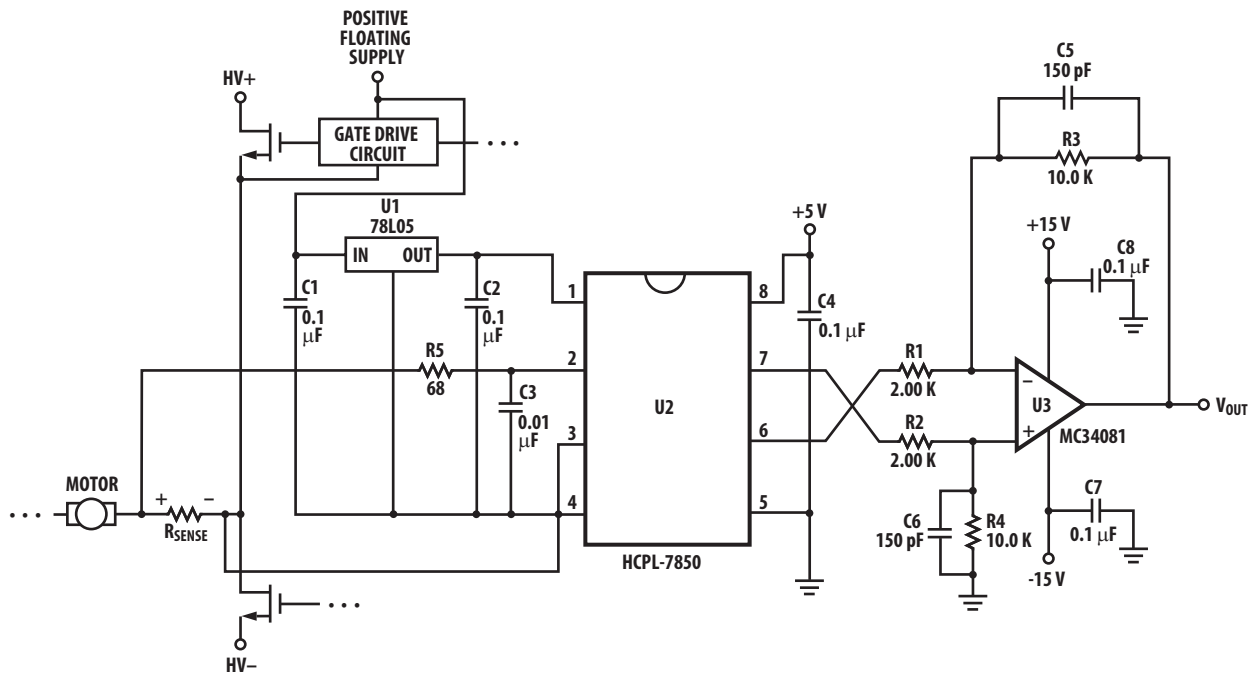

Figure 24. Recommended Application Circuit.
- CMR (also known as IMR or Isolation Mode Rejection) specifies the minimum rate of rise of a common mode signal applied across the isolation boundary at which small output perturbations begin to occur. These output perturbations can occur with both the rising and falling edges of the common mode waveform and may be of either polarity. A CMR failure is defined as a perturbation exceeding 200 mV at the output of the recommended application circuit (Figure 24). See Applications section for more information on CMR.
The recommended application circuit is shown in Figure 24. A floating power supply (which in many applications could be the same supply that is used to drive the high-side power transistor) is regulated to 5 V using a simple three-terminal voltage regulator (U1). The voltage from the current sensing resistor, or shunt (R_{sense}), is applied to the input of the HCPL-7850 through an RC anti-aliasing filter (R_5 , C_3). And finally, the differential output of the isolation amplifier is converted to a ground-referenced single-ended output voltage with a simple differential amplifier circuit (U3 and associated components). Although the application circuit is relatively simple, a few recommendations should be followed to ensure optimal performance.
As shown in Figure 24, a 0.1 μF bypass capacitor (C_2 , C_4) should be located as close as possible to the input and output power supply pins of the HCPL-7850. The bypass capacitors are required because of the high-speed digital nature of the signals inside the isolation amplifier. A 0.01 μF bypass capacitor (C_3) is also recommended at the input pin(s) due to the switched-capacitor nature of the input circuit. The input bypass capacitor should be at least 1000 pF to maintain gain accuracy of the isolation amplifier.
The recommended method for connecting the isolation amplifier to the shunt resistor is shown in Figure 24. Pin 2 (VIN+) is connected to the positive terminal of the shunt resistor, while pin 3 (VIN-) is shorted to pin 4 (GND1), with the power-supply return path functioning as the sense line to the negative terminal of the current shunt. This allows a single pair of wires or PC board traces to connect the isolation amplifier circuit to the shunt resistor. In some applications, however, supply currents flowing through the power-supply return path may cause offset or noise problems. In this case, better performance may be obtained by connecting pin 3 to the negative terminal of the shunt resistor separate from the power supply
The recommended application circuit (Figure 24) includes a post-amplifier circuit that serves three functions: to reference the output signal to the desired level (usually ground), to amplify the signal to appropriate levels, and to help filter output noise. The particular op-amp used in the post-amp is not critical; however, it should have low enough offset and high enough bandwidth and slew rate so that it does not adversely affect circuit performance. The offset of the op-amp should be low relative to the output offset of the HCPL-7850, or less than about 5 mV.
To maintain overall circuit bandwidth, the post-amplifier circuit should have a bandwidth at least twice the minimum bandwidth of the isolation amplifier, or about 200 kHz. To obtain a bandwidth of 200 kHz with a gain of 5, the op-amp should have a gain-bandwidth greater than 1 MHz. The post-amplifier circuit includes a pair of capacitors (C5 and C6) that form a single-pole low-pass filter. These capacitors allow the bandwidth of the post-amp to be adjusted independently of the gain and are useful for reducing the output noise from the isolation amplifier (doubling the capacitor values halves the circuit bandwidth). The component values shown in Figure 24 form a differential amplifier with a gain of 5 and a cutoff frequency of approximately 100 kHz, and were chosen as a compromise between low noise and fast response times. The overall recommended application circuit has a bandwidth of 66 kHz, a rise time of 5.2 μ s and a delay to 90% of 8.5 μ s.